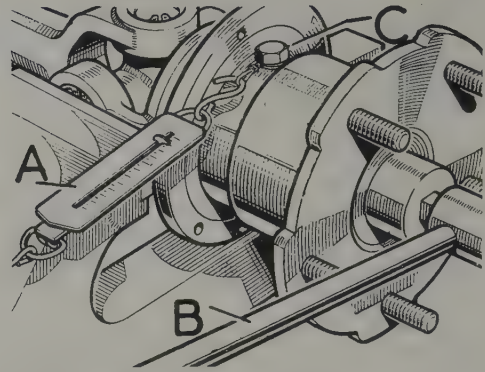

Fig. 8.7. Measuring rear hub pre-load
- 25 If the existing bearings are being re-used mount the hub assembly in a vice as shown in Fig.8.7, and tighten the nut until the new collapsible spacer is just trapped. There should be approximately 0.060 inch (1.52 mm) endfloat in the assembly.